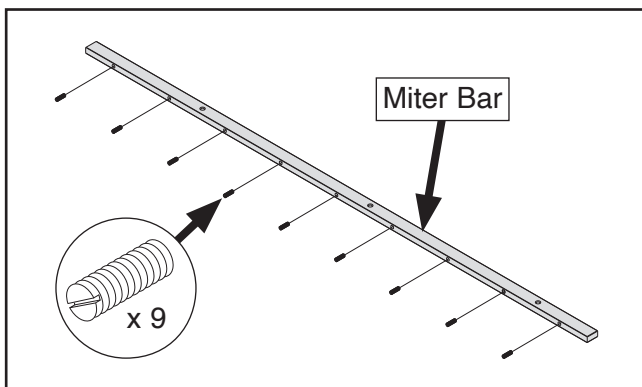

Figure 4. Installing slotted set screws in miter bar.
4. Thread (9) 10-32 slotted set screws into miter bar (see **Figure 4**).